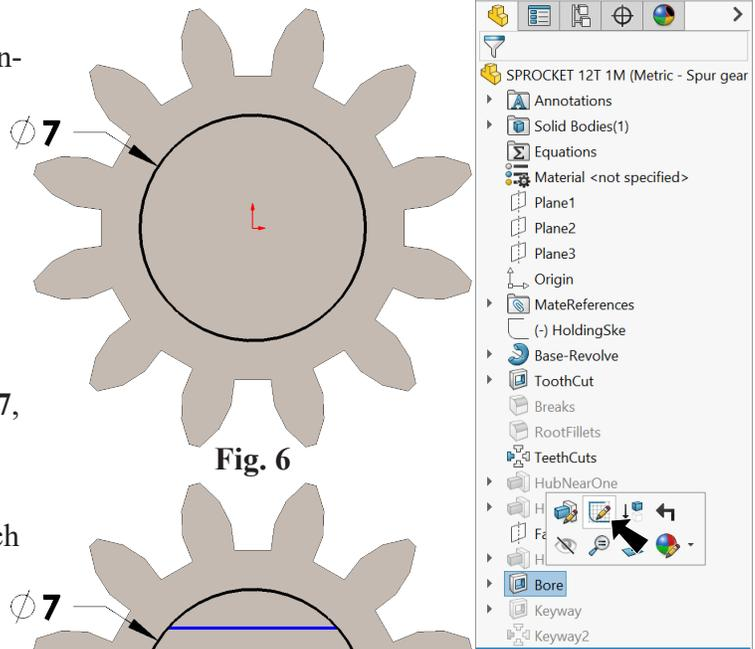

Fig. 6
Step 3. Change **diameter dimension to 7**, **Fig. 6.**